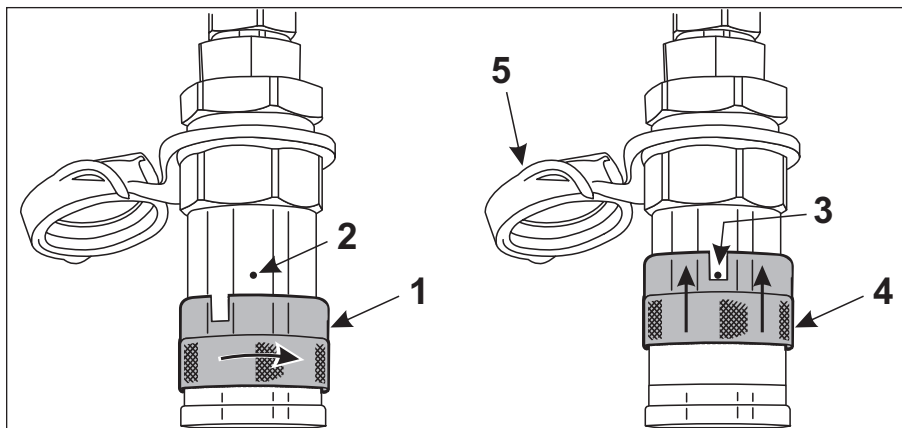

Figure 3-41 Quick Connect Locking Collar
3. Some of the female couplings will have a lock button preventing accidental disconnection. To release this type of quick connect, rotate the collar on the female quick connect (Item 1, Figure 3-41) to align the notch on the collar with the lock button (Item 2, Figure 3-41).
4. Slide the collar backwards on the female quick connect (Item 4, Figure 3-41) until it stops against the lock button (Item 3, Figure 3-41). The male connector will be released. Move the attachment hose away from the bulkhead fitting.
7. Cover the hose connections with the dust caps (Item 5, Figure 3-41) and store the hydraulic hoses to prevent damage. NOTE: If your hoses do not have dust caps, keep hoses connected/coupled together to prevent dirt intrusion.